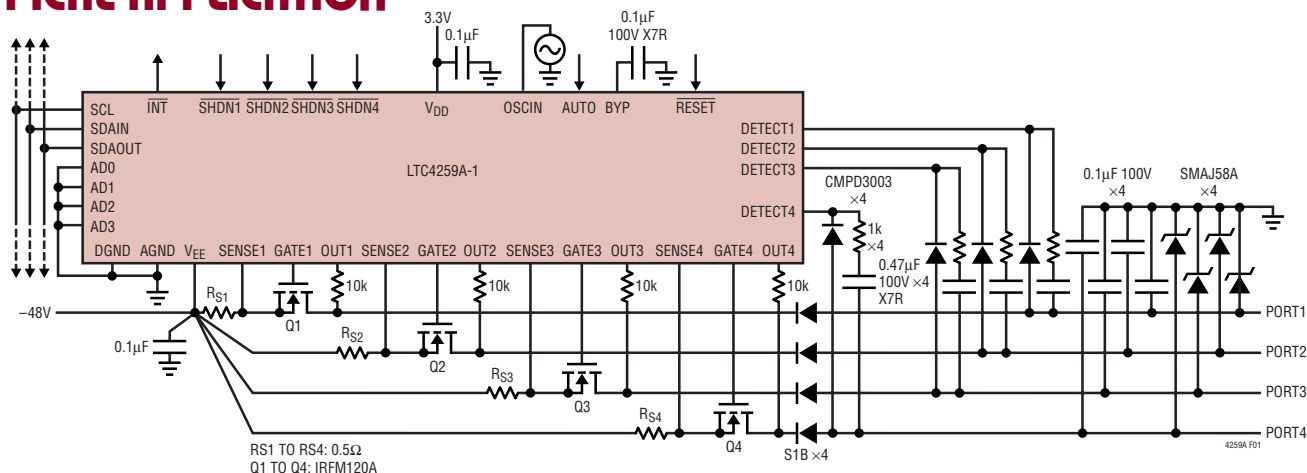

Figure 1. Complete 4-Port Powered Ethernet Power Source
The LTC®4259A-1 is a quad –48V Hot Swap™ controller designed for use in IEEE 802.3af compliant Power Sourcing Equipment (PSE). It consists of four independent ports, each with output current limit, short-circuit protection, complete Powered Device (PD) detection and classification capability, and programmable PD disconnect using AC or DC sensing. Used with power MOSFETs and passives as in Figure 1, the LTC4259A-1 can implement a complete IEEE 802.3af-compliant PSE.